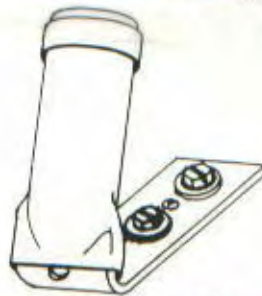

FIGURE 6
F. Fold back the bracket jackets so that you can easily insert the rafters. See Figure 6. **Go to page 9.**